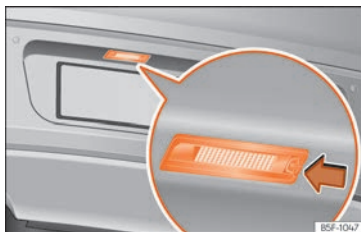

Fig. 65 In the rear bumper: Number plate light.
- Press the number plate light in the direction of the arrow »» Fig. 65.